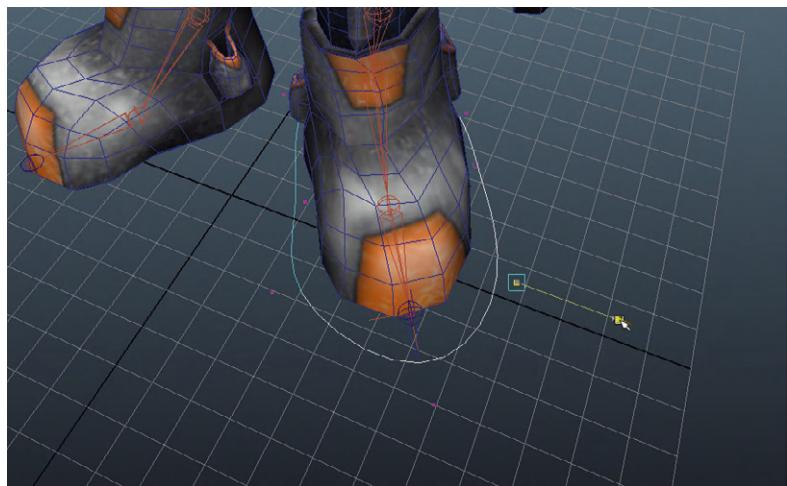

FIG 8.23 Shaping the handle around the foot.
Step 47: Shape the handle. To do this, right-click on the L_Foot_Cntrl curve in the View Panel and select Control Vertex from the marking menu. Move the vertices (only along the X and Z axis) to create a shape you like around the foot (Fig. 8.23).